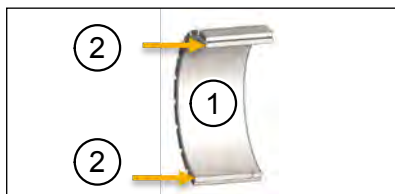

Fig. 16: Pressure points on the inner ring
- Only press on the inner ring (item 1 in Fig. 16) of the rotor when you push it onto the shaft. The pressure points (item 2 in Fig. 16) should be opposite one another.